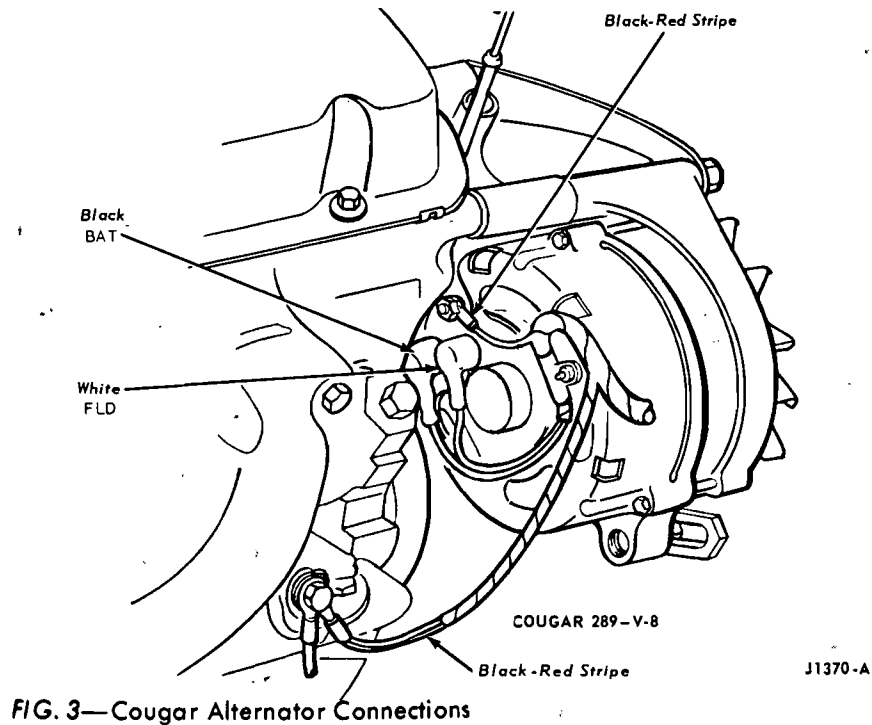

FIG. 3—Cougar Alternator Connections
1. Lay the alternator on top of the fender and connect the leads (Fig. 3).